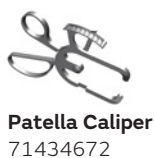

Figure 50
1. Choose the appropriate size porous oval/round patella drill guide and attach it to the patella clamp. Make sure the guide sits flush on the resected patella and there are no spaces visible. Use the porous patella peg drill 5.7mm to drill the three fixation holes (**Figure 50**).